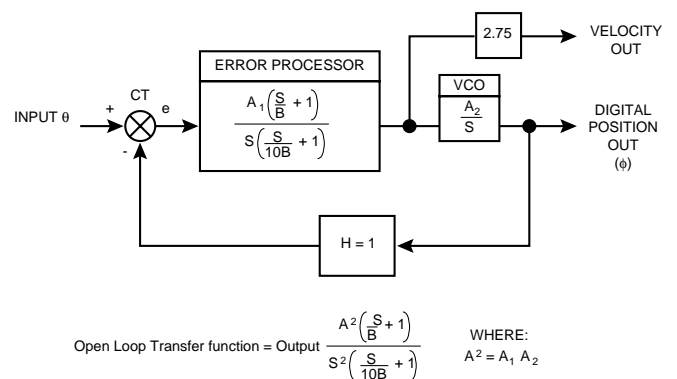
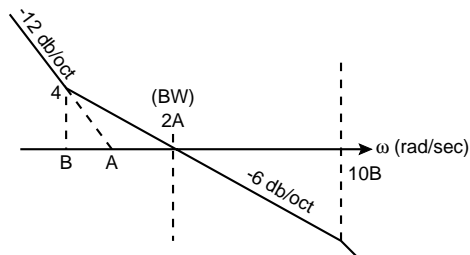

FIGURE 6. CONTROL LOOP BLOCK DIAGRAM
FIGURE 7. OPEN LOOP BODE PLOT
A Type II servo loop ($K_v = \infty$) and very high acceleration constants give the SD-14590 superior dynamic performance, as listed in TABLE 3. If the power supply voltages are not the ± 15 VDC nominal values, the specified input rates will increase or decrease in proportion to the fractional change in voltage. A Control Loop Block Diagram is shown in FIGURE 6, and an Open Loop Bode Plot is shown in FIGURE 7. The values of the transfer function coefficients are shown in TABLE 3.
The Velocity output (VEL) from the SD-14590 is a DC voltage proportional to angular velocity $d\theta/dt = d\phi/dt$. The velocity input is the second integrator, as shown in FIGURE 6. Its linearity is dependent solely on the linearity of the voltage controlled oscillator (VCO). Due to the highly linearized VEL output, the electro-mechanical tachometer can now be eliminated from motion control systems. Bandwidth (BW) and the acceleration constant (K_a) can be determined from the formula shown: